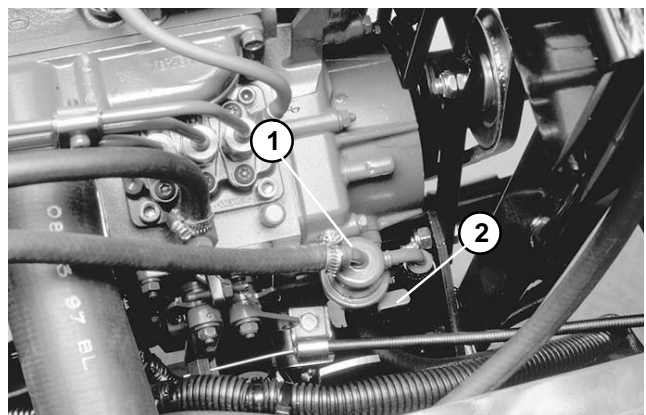

Figure 10
4. Pump lever on the fuel pump (Fig. 10) until a solid stream of fuel flows out around the bleed screw on the fuel filter/water separator. Tighten air bleed screw.
6. Pump lever on fuel pump (Fig. 10) until a solid stream of fuel flows out around screw on the fuel injection pump. Tighten air bleed screw.